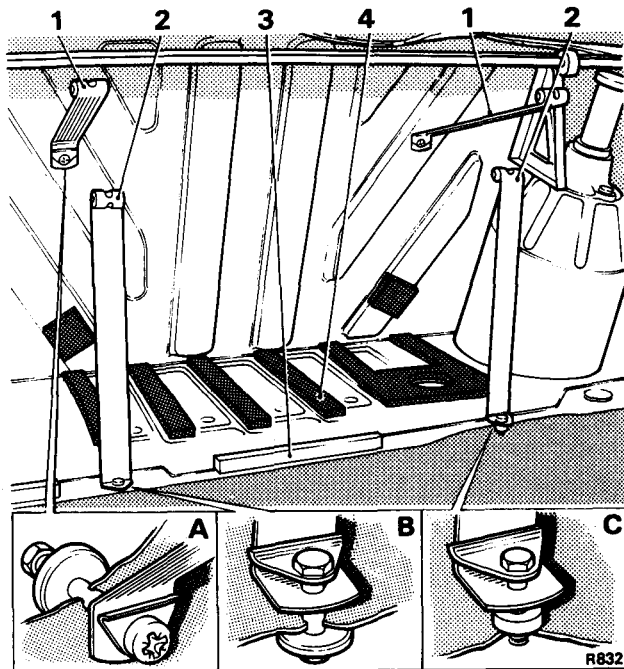

FIG. 7 LUGGAGE COMPARTMENT - FUEL TANK FITTINGS
The position of all mounting strips are shown in Figure 7.
4. Fit the four fuel tank securing straps to the body (see Fig. 7). The two upper mountings are similar and are shown in Figure 7—inset A. The two lower mountings are different, the left-hand mounting is shown in Figure 7—inset B, where the bolt passes through the body and is retained by a nut. The right-hand mount is shown in Figure 7—inset C, where the bolt has a distance piece and screws directly into a threaded bush attached to the body.